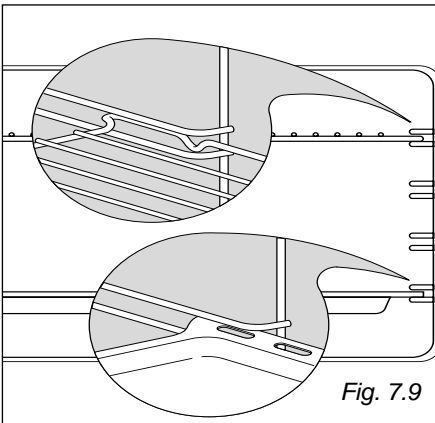

Fig. 7.9
- Slide the tray and rack into the runners (Fig. 7.9).